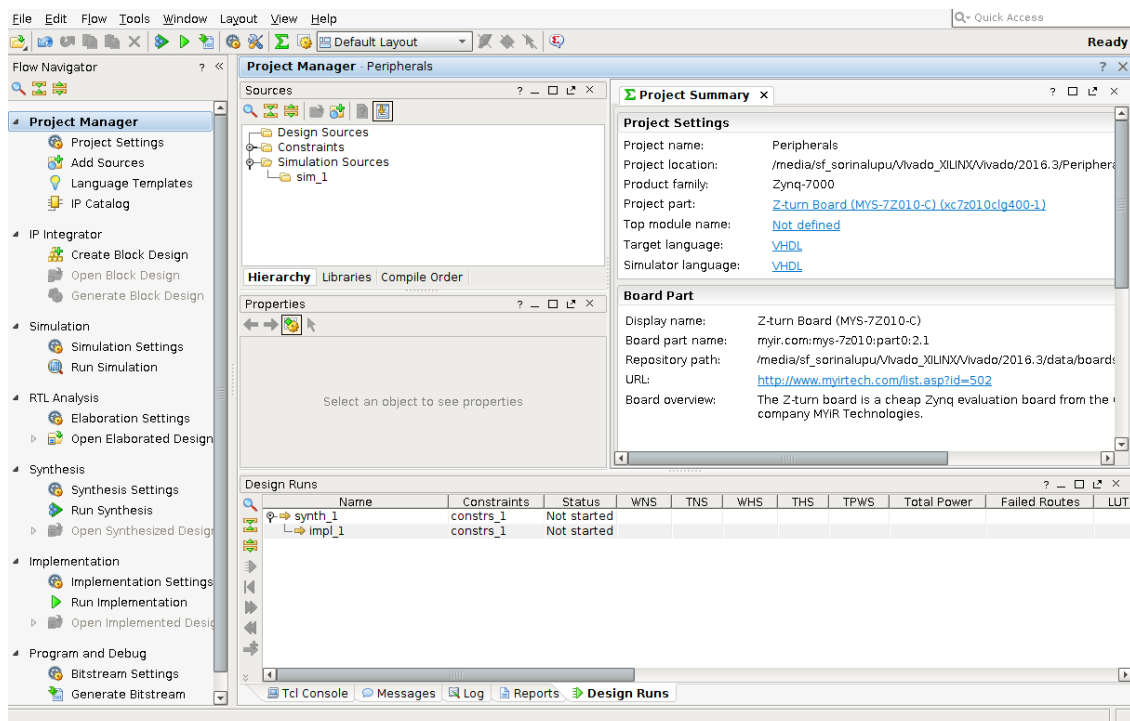

Figure 7: Project Structure
4. Create the Block Design. On the left, in the Flow Navigator window, choose **Create Block Design** and call it **Peripherals**. Press OK, and now the environment should look like in Figure 7. Vivado is based on an IP-centric design flow, in order to rapidly configure the AXI interconnect, AXI Masters and Slaves.